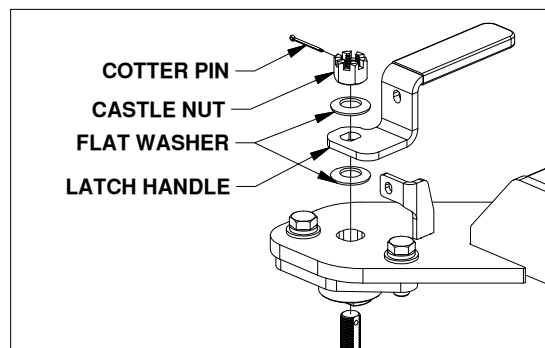

Figure B5: List of latch parts.
4. **Adjust the tension in the latch handle,** for parts list and visual guide refer to Figures B5 and B6.